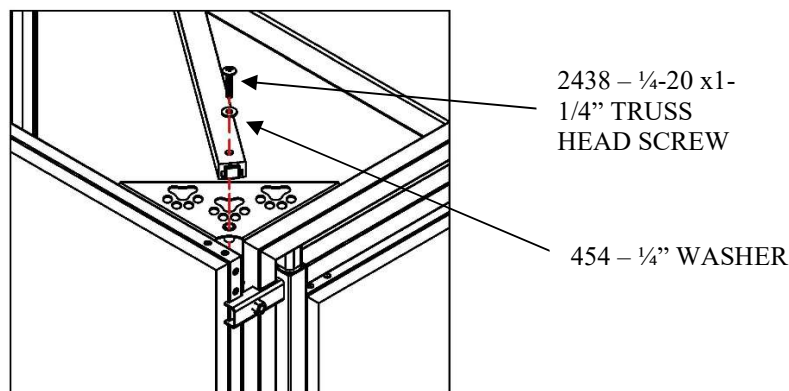

Figure 20
3. Next, loosely attach the brace to the threaded insert in the front gusset. See Figure 20.